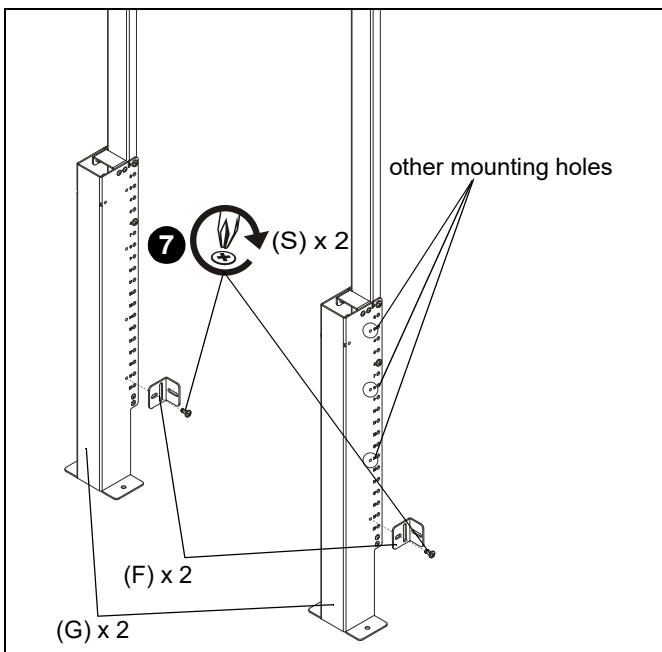

Figure 4
7. Use two 1/4-20 x 1/2" button head cap screws (S) to secure two wall brackets (F) to bottom uprights (G). (See Figure 4)
NOTE: Any of the four holes on each upright (G) can be used on either side depending on where uprights were attached to each other and/or component storage panel location. (See Figure 4)